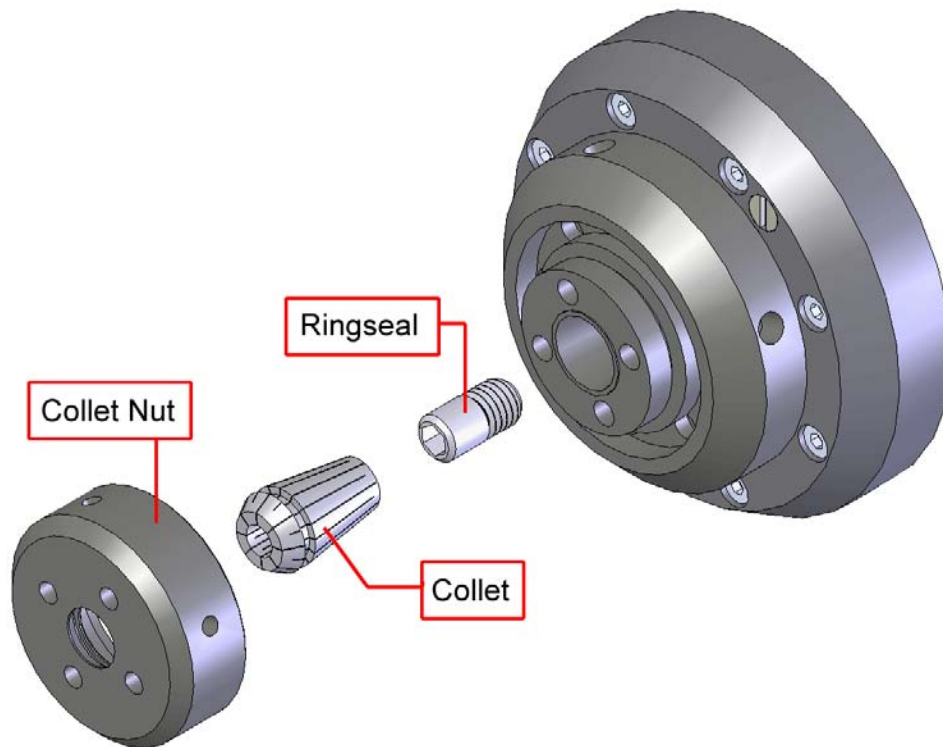

Figure 4-1: Ringseal Removal and Replacement
- Step 3: Once the collet has been released, unscrew the collet nut as shown in Figure 4-1. If necessary, use a spanner wrench available from Aerotech.